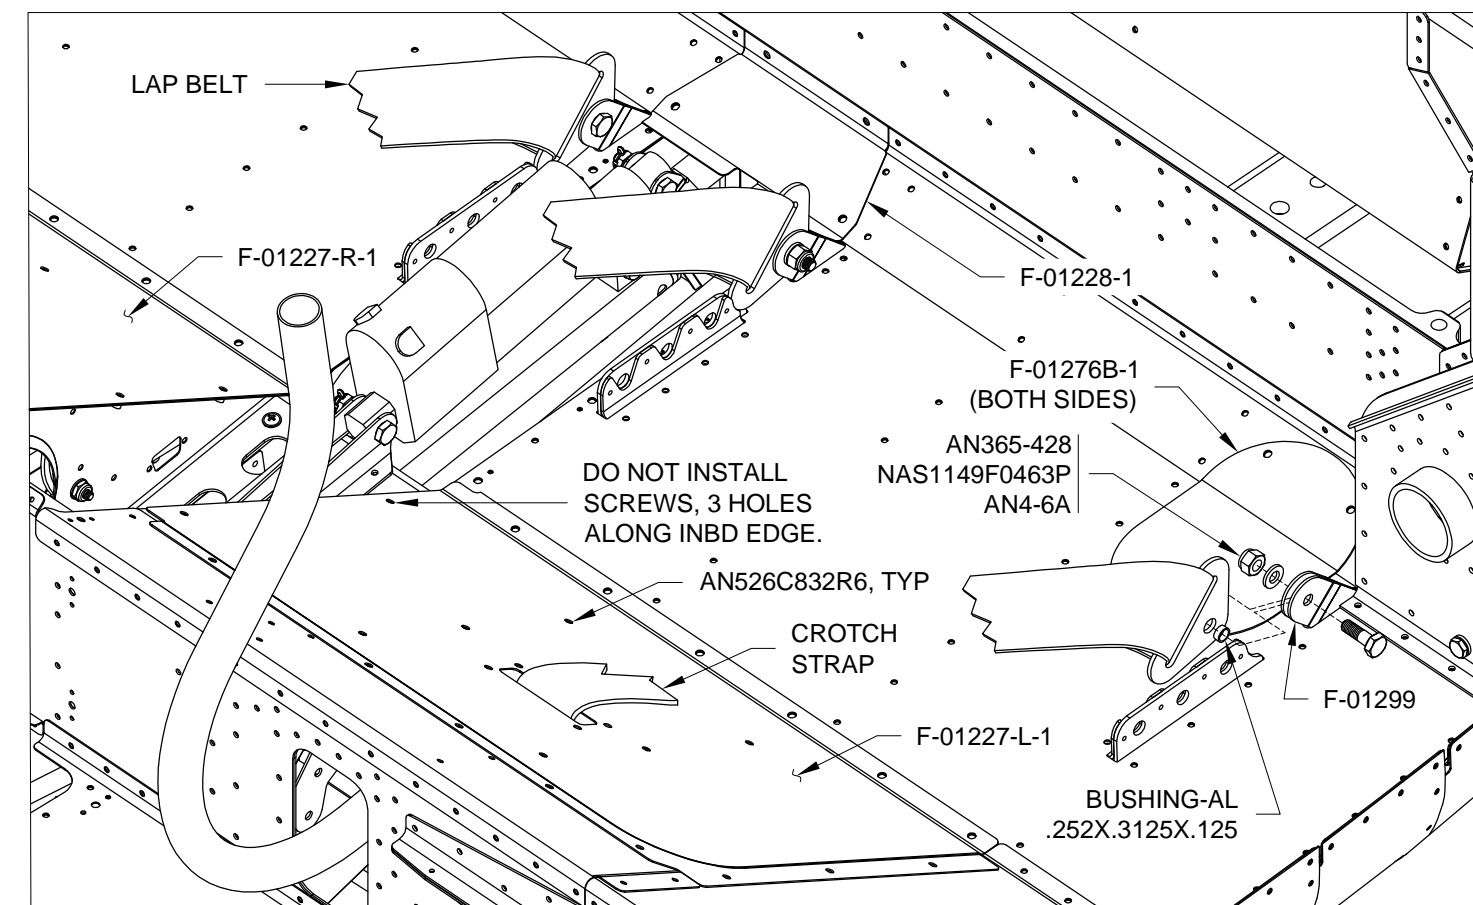

FIGURE 3: LAP BELT AND COVER INSTALLATION
Step 4: Attach the end fitting of the lap belts to the F-01299 using the hardware shown in Figure 3. Take care when installing the lap belts that they will not be twisted when buckled together.
Step 5: Attach the F-01227-1, F-01228-1, and F-01276B-1 covers shown in Figure 3.